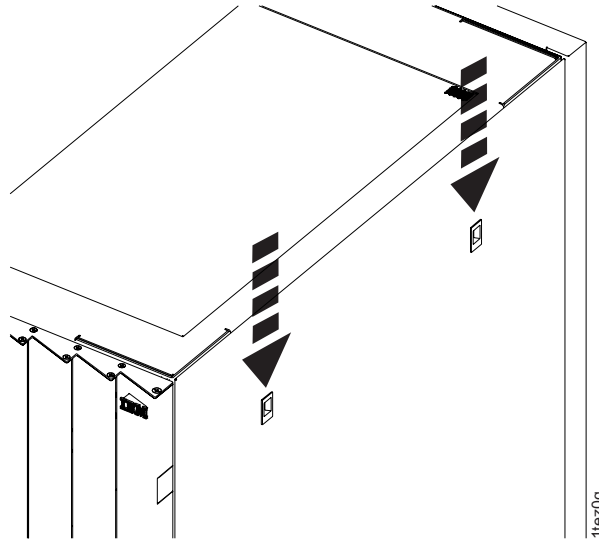
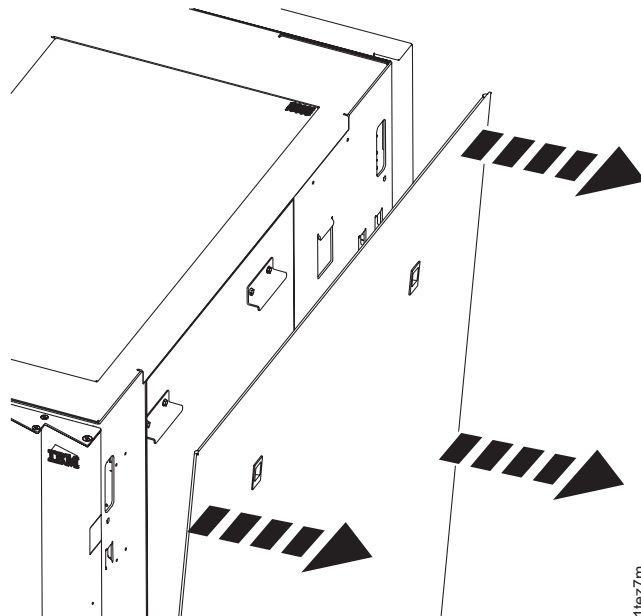

Figure 55. Disengaging the end cover
Figure 56. Removing the end cover
- Older version has two cover retaining brackets as shown in Figure 55 on page 73. Go to the next step.
- Newer version does not have the two cover retaining brackets as shown in Figure 55 on page 73. Go to step 3 on page 74.
2. Remove the old version of the front right end cover from the rack that the new rack will be installed to as shown in Figure 55 on page 73 and Figure 56 on page 73. Pull the cover near the top sides to release it from the top "hook and loop" fasteners. Then pull lower down on each side of the cover to release it from the lower "hook and loop" fasteners. Failure to do this may bend the cover.
- a. Release the two cover retaining brackets (pull them downward). See Figure 55. The cover is still secured to the frame by multiple “hook and loop” fasteners along each side of the cover.
- b. Pull the upper corners of the cover away from the rack to release the upper “hook and loop” fasteners and apply even pressure working your way down the sides. See Figure 56.
- b. Pull the upper corners of the cover away from the rack to release the upper "hook and loop" fasteners and apply even pressure working your way down the sides. See Figure 56 on page 73.